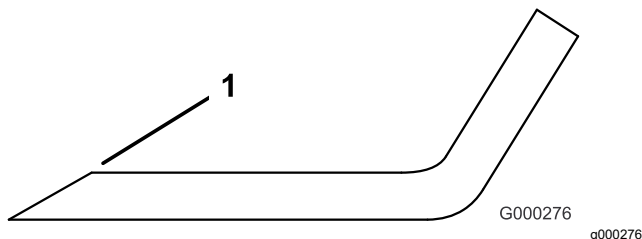

Figure 132
- Examine the cutting edges of all of the blades and sharpen the cutting edges if they are dull or nicked (Figure 132).
Note: Sharpen only the top of the cutting edge and maintain the original cutting angle to ensure sharpness (Figure 132). The blade remains balanced if the same amount of metal is removed from both cutting edges.